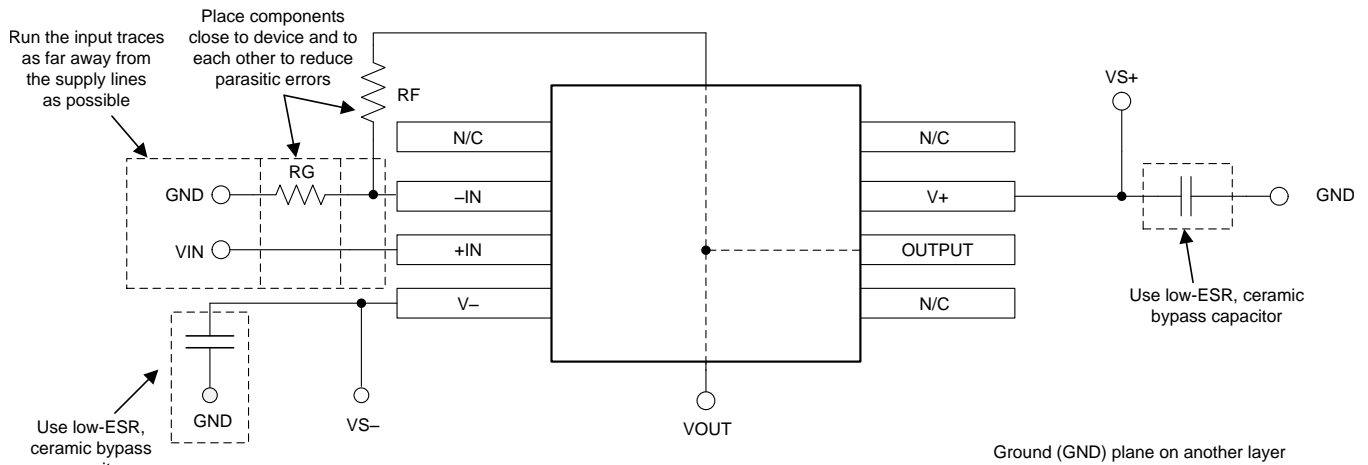

图 67. Operational Amplifier Board Layout for Noninverting Configuration
- Place the external components as close to the device as possible. As shown in Figure 67, keeping RF and RG close to the inverting input minimizes parasitic capacitance.